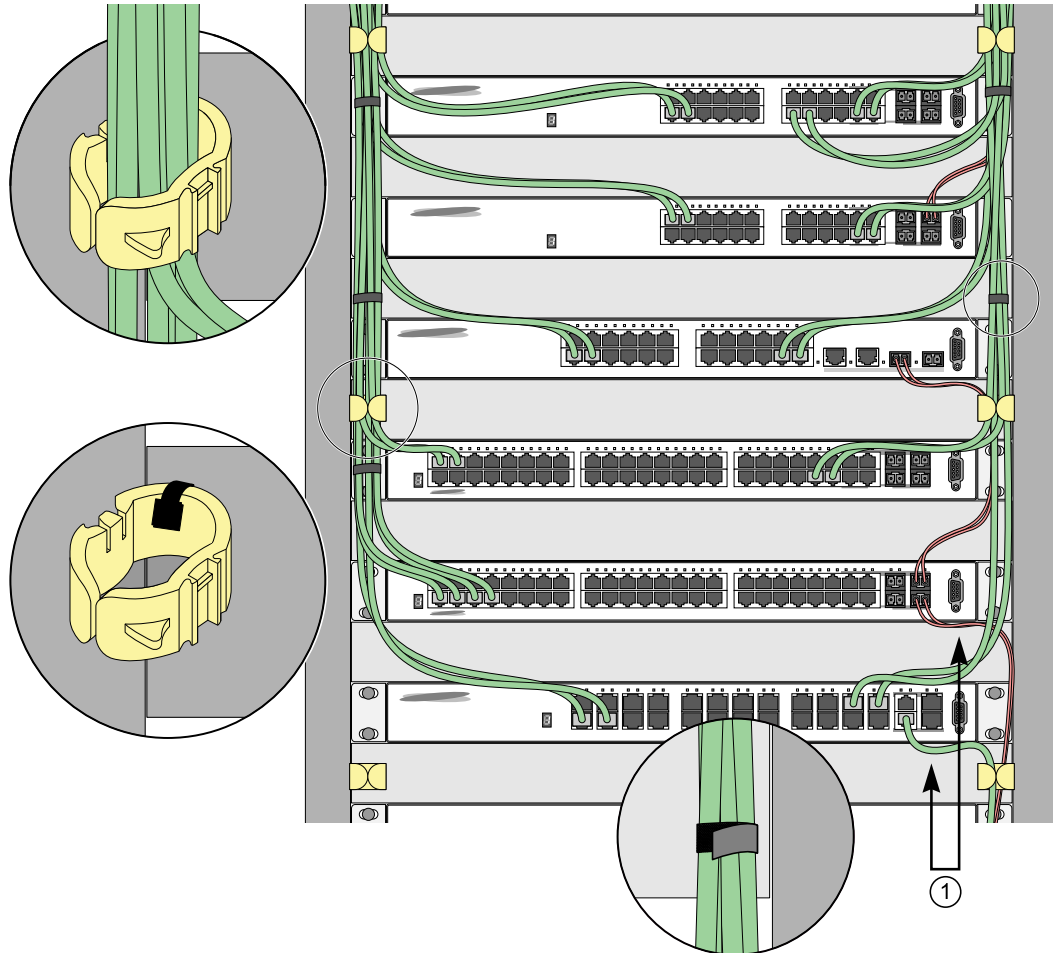

Figure 13: Properly Installed and Bundled Cable
- Provide enough slack, approximately 5 to 7.5 cm (2 to 3 in), to provide proper strain relief as shown in Figure 13 on page 45.
- When installing a patch panel using twisted pair wiring, untwist no more than 2.5 cm (1 in) of the cable to avoid radio frequency (RF) interference.